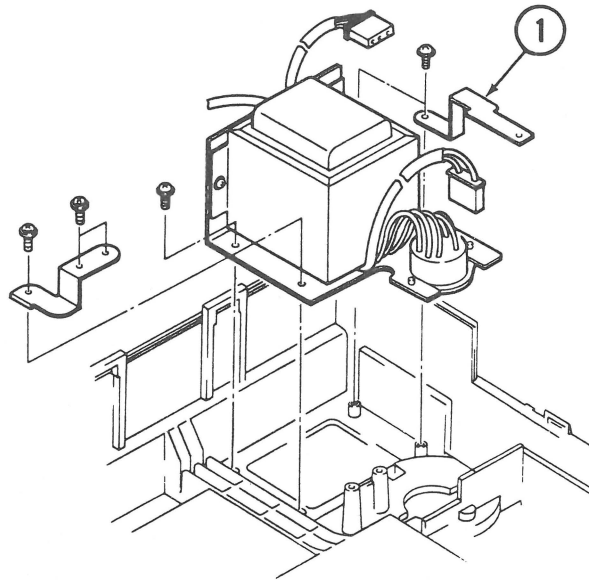

FIGURE 31
4. Connect the ground strap bracket (Figure 31, #1) from the transformer plate to the power supply board.